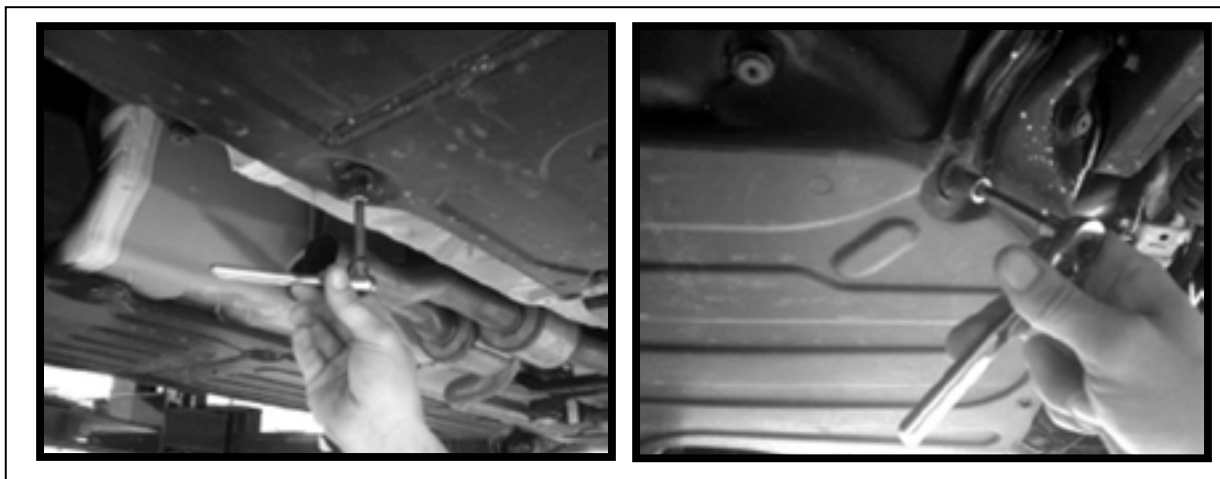

FIGURE 10-18
21.0 REMOVE BOLTS FROM ROCK GUARD. (FIGURE 10-18)